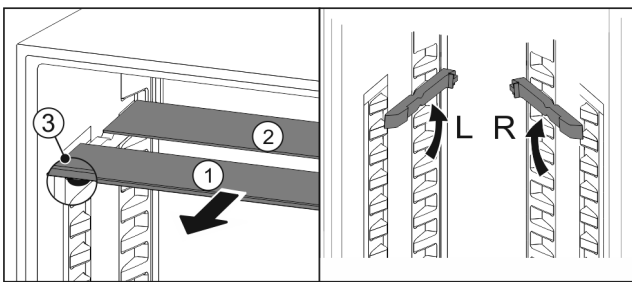

Fig. 61
- ▶ Pull the glass panels out Fig. 61 (1) from the front, one at a time.
- ▷ The glass panel Fig. 61 (1) and trim strip are at the front.
- ▷ The stops Fig. 61 (3) point down.